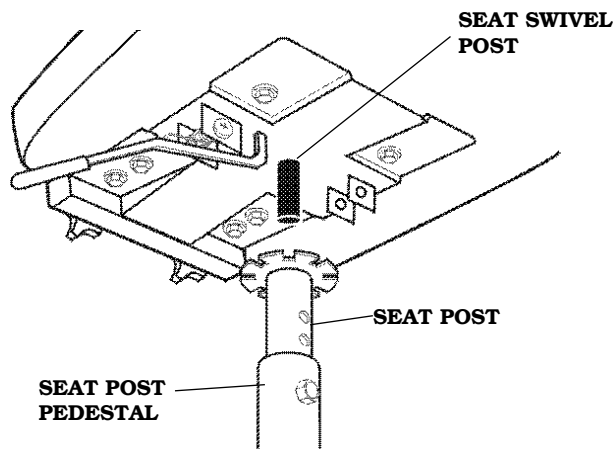

FIGURE 36. INSTALLING THE SEAT
2. Lift seat and position the seat swivel post into the seat post. See figure 36.